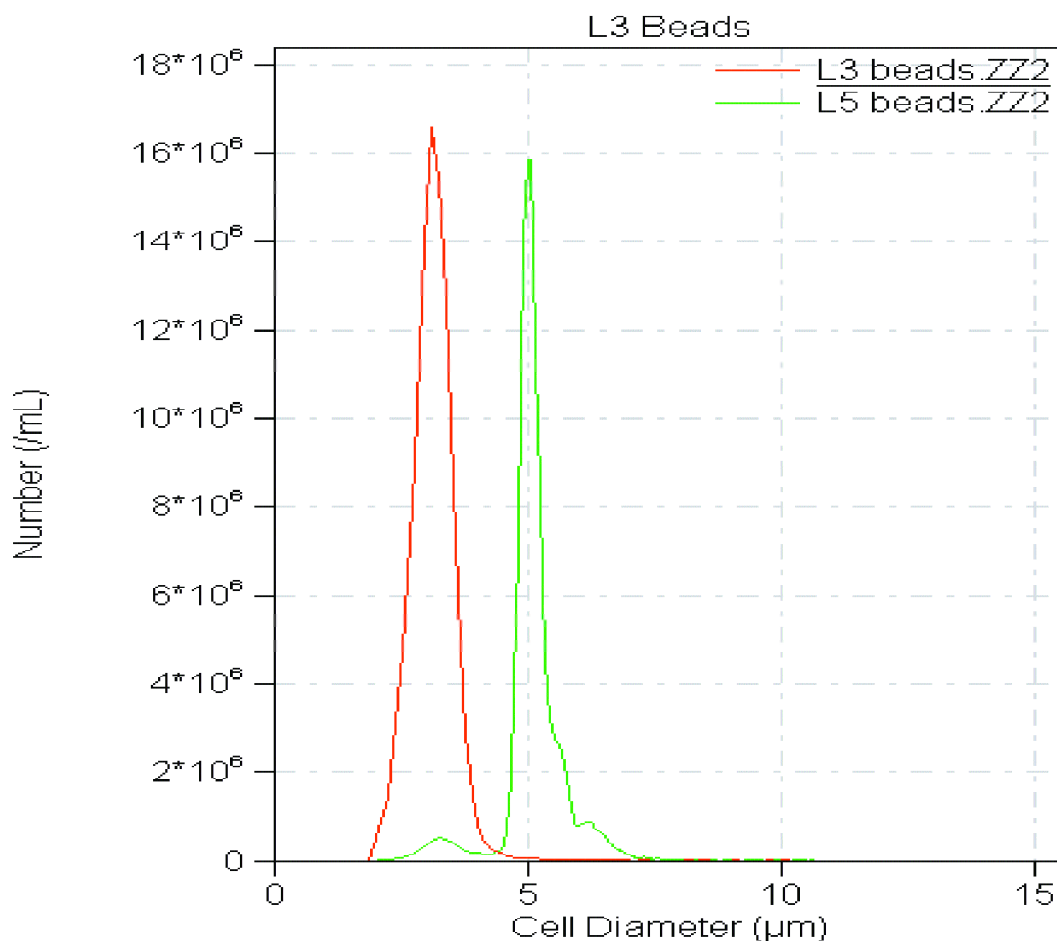

Figure 2: L3 and L5 beads used to set size parameters.
- h. After run, acquire data with Accucomp software (Figure 2).